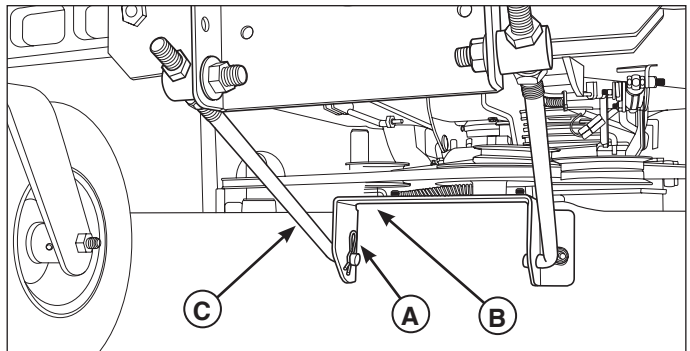

Figure 23. Front Deck Lift Components
5. Remove the hairpin clips and washers (A, Figure 23) securing the front mower deck bracket (B) to the front lift rods (C), and pull the rods out from the holes in the bracket. Retain all removed hardware.
4. Insert the front lift rods (C, Figure 23) into the bottom holes in the front mower deck bracket (B), and secure each with a washer and hairpin clip (A).